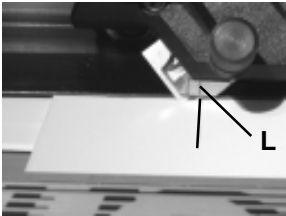
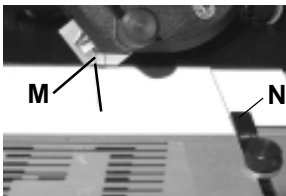

Figure 10
Figure 11
1. Insert the **Locator Pin** for the desired border width and place a mat under the **Clamp** in the usual position for bevel cutting. CAUTION: Be sure the lower left edge of the mat rests against the **Mat Stop (N)** in Figure 11. Make the four pencil lines as described previously.
5. Set the **Lower Measuring Stop (H)** at the same border width on its scale mounted on the top of the **Clamp**. See Figure 9. Starting at the upper position, insert the blade through the mat. The right hand scribed line on the **Magazine (L)**, in Figure 10, should line up with the pencil line and the **Sight Gauge** should also be in line with the pencil line. Now pull the **Cutting Head** toward the **Lower Measuring Stop** in the usual way. It should hit the **Lower Measuring Stop** when the blade has passed the lower horizontal line about 1/8" (3mm). The left scribed line (**M**) on the **Magazine** should now be in line with the pencil line, see Figure 11. If necessary, adjust the **Stop Screw (J)** on the **Lower Measuring Stop** to achieve the 1/8" (3mm) dimension. Lock the **Stop Screw (J)** in place by tightening its **Jam Nut (K)**.